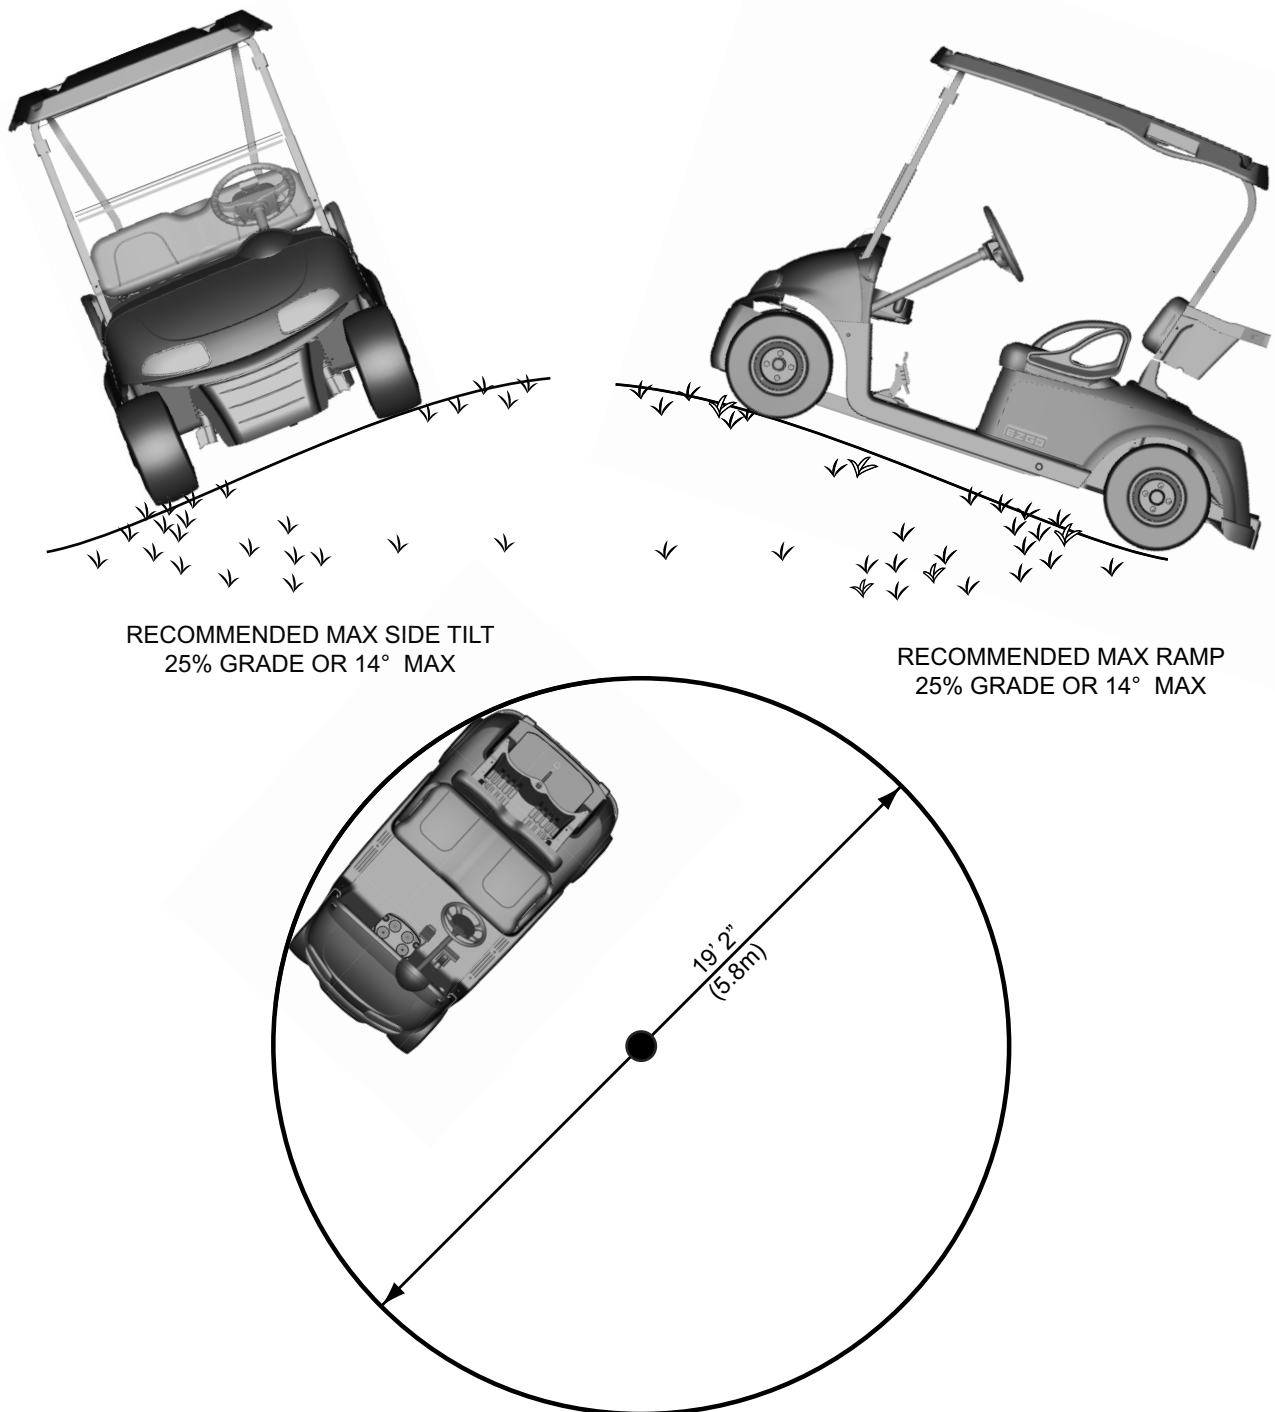

Figure 3 Vehicle Incline Specifications and Turning Diameter
With the key switch in the ON position, press the accelerator pedal (12) to start the engine. When the pedal is released, the engine will stop. To stop the vehicle immediately, press the brake pedal (13) (Figure 3).
When you press the accelerator pedal (12), the parking brake will be released if it is engaged. This is a feature to assure the vehicle is not driven with the parking brake engaged. This is not the preferred method of releasing the parking brake (Figure 3).
The foot operated parking brake is the top part of the brake pedal (13). To engage the parking brake, press on the upper section of the pedal until it locks in position. Press the lower part of the brake pedal to release the parking brake (Figure 3).